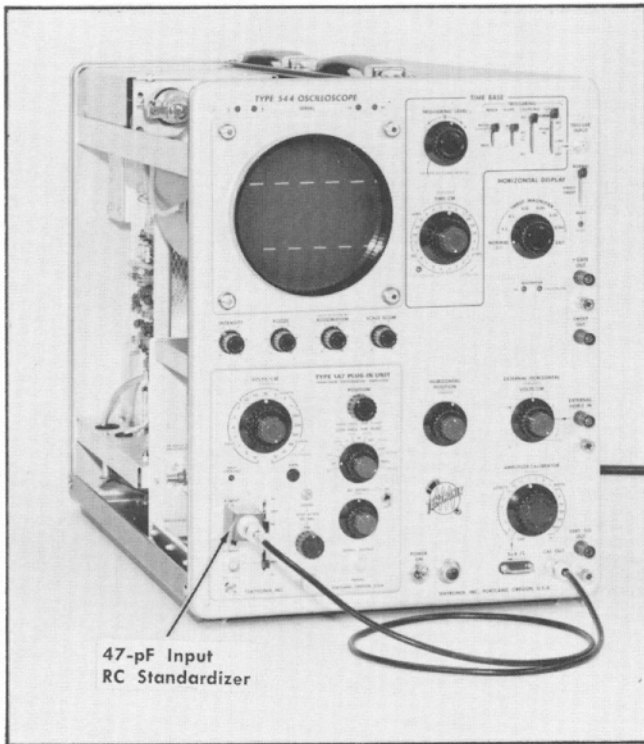

Fig. 6-19. Setup at completion of step 13c.
c. Connect the coaxial cable to the standardizer. Fig. 6-19 shows the setup.
14. Adjust C211—X1 —Input Attenuator ① Time Constant Standardization
a. Disconnect the signal from the +INPUT connector and apply it to the —INPUT connector. (This setup is similar to Fig. 6-19 except, in this step, the signal is applied to the —INPUT connector.)